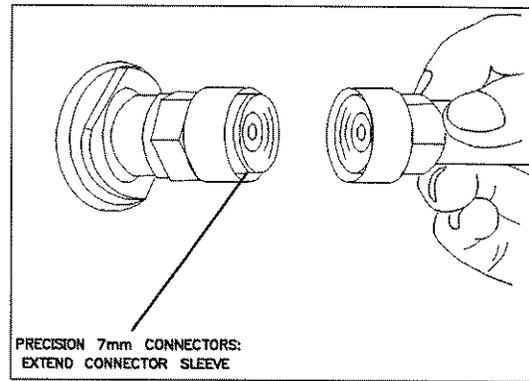

Figure 3-22. Align the Connectors
1. Carefully align the connectors (see Figure 3-22).